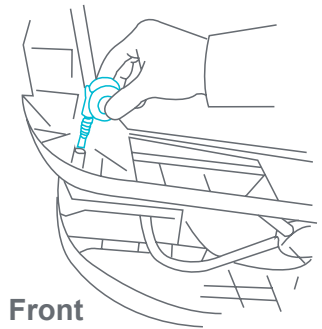

Fig. 5
- 5 • Place walker on a solid flat surface with bottom of base facing upward. Insert the pins of the front wheels into their housing, pressing them until they snap into position. Please check that wheels are locked into place before proceeding (Fig. 5).**